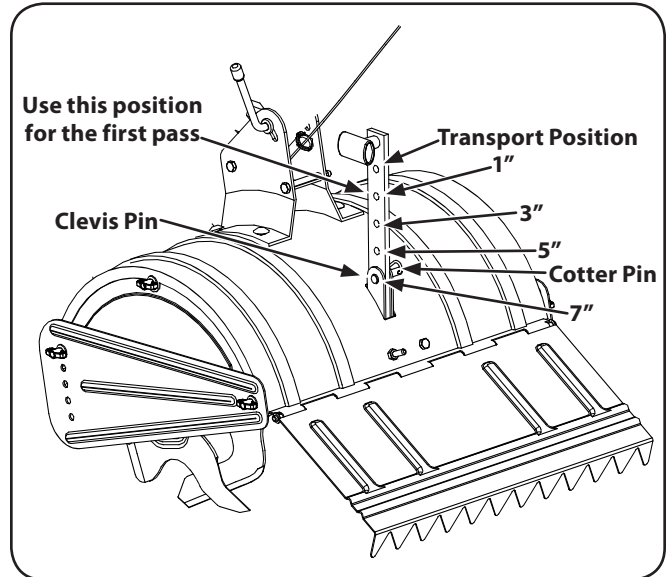

Figure 5-1
1. When using the tiller for the first time, use the second adjustment hole from the top (1" of tilling depth). See Fig. 5-1.
2. To adjust the depth stake, remove the clevis pin and cotter pin. Move the depth stake to the desired setting and secure with the clevis pin and cotter pin. See Fig. 5-1.